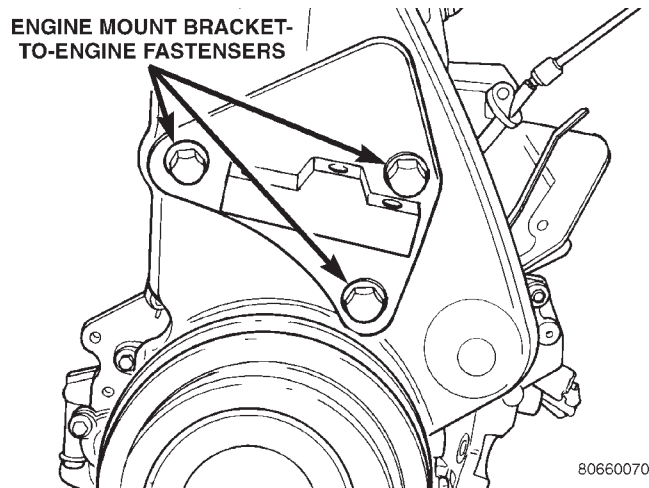

Fig. 62 Right Engine Mount Bracket
- (8) Remove right engine mount bracket (Fig. 62).